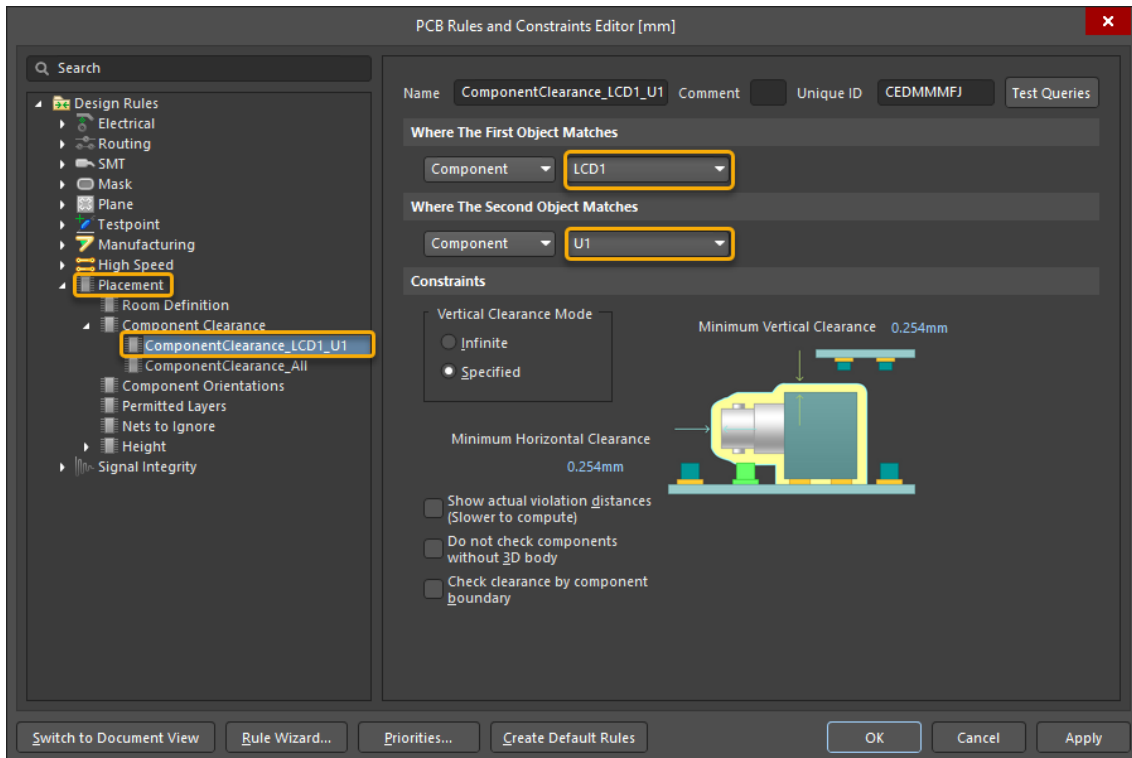

Figure 8. Component Clearance Design Rule for LCD1 and U1
29. In the pane on the left side of the dialog browse to the *Placement - Component Clearance* branch and select the rule `ComponentClearance_LCD_U1`, Figure 8.